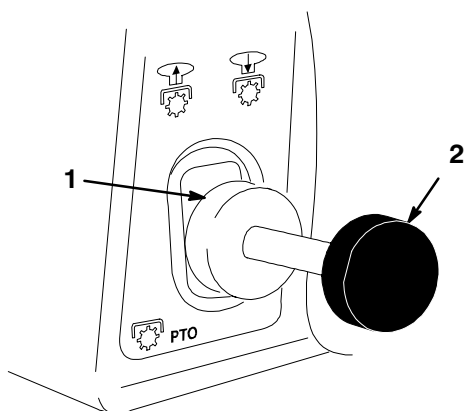

Figure 18
2. Pull the power take off (PTO) to “ON” (Fig. 18).
2. Push the power take off (PTO) to “OFF” (Fig.18).